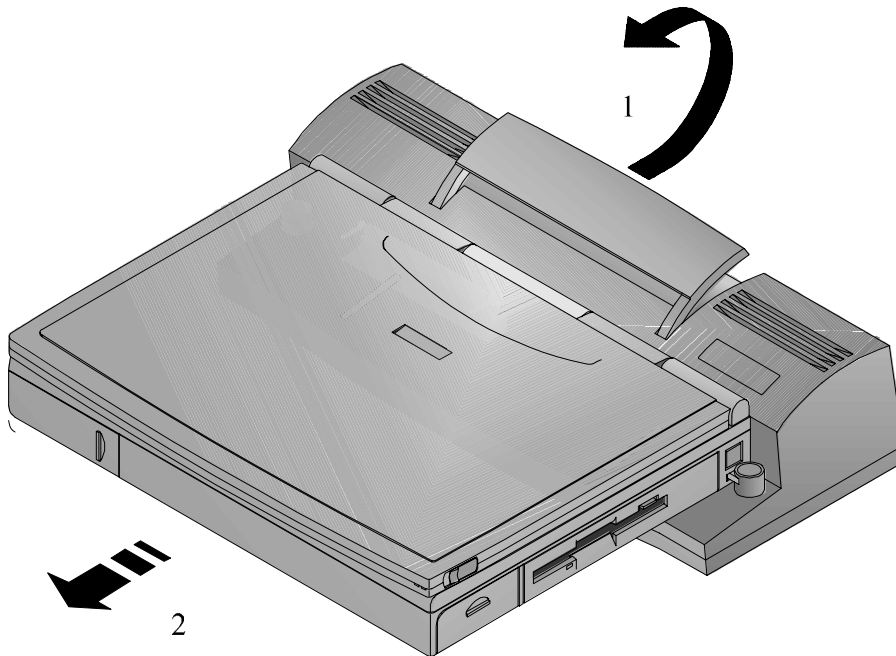

Figure 6-16: Removing the Notebook from the Minidock
1. Raise the Release latch in the direction of the arrow shown. (Figure 6-16, step 1)
2. Slide the notebook away from the Minidock. (Figure 6-16, step 2)